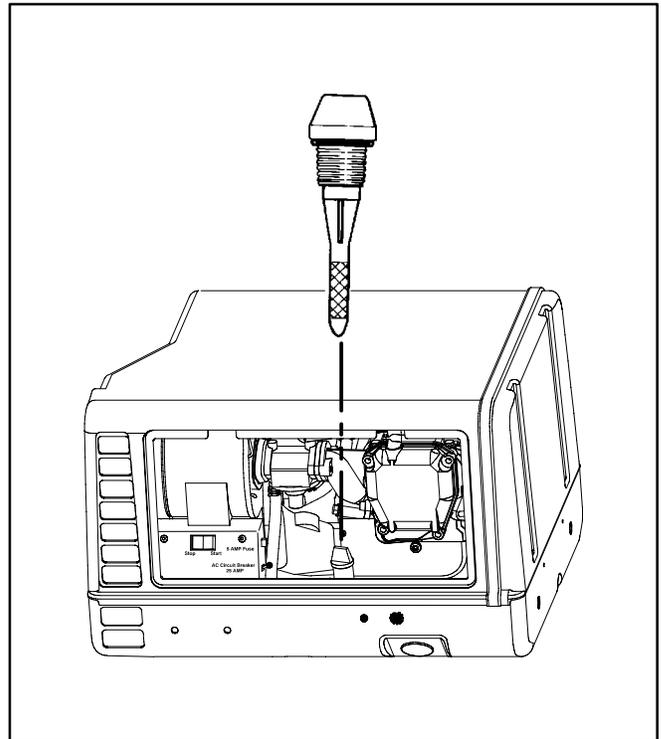

FIGURE 10. OIL LEVEL DIP STICK
1. Unscrew the oil fill cap and wipe oil off the dipstick (Figure 10). Reinsert the dipstick, **but do not screw the cap down**. Remove the dipstick again and check the oil level on the dipstick.
1. Run the engine until warm, stop it and remove the oil fill cap (Figure 10).